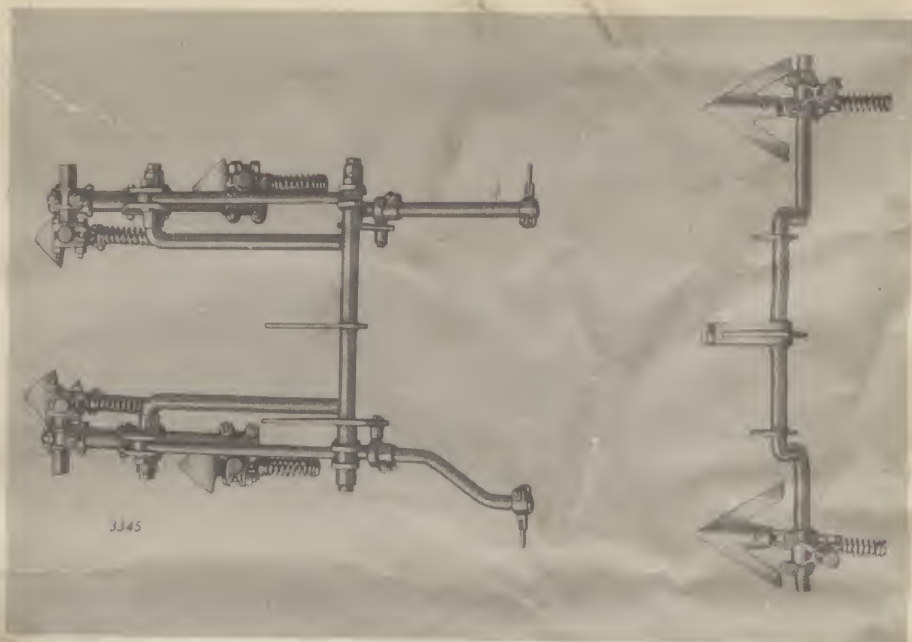

Figure 8—Overhead View, M12 Cultivator
- (A) First determine whether your cultivator is an M12, M14, M16 or M18. See Figures 8, 9, 10 or 11.
- (B) Read all setting up instructions and carefully observe illustrations.
- (C) Cut bundling wires and conveniently arrange parts.
- (D) Lubricate all bearings and moving parts as you proceed so that they move freely.